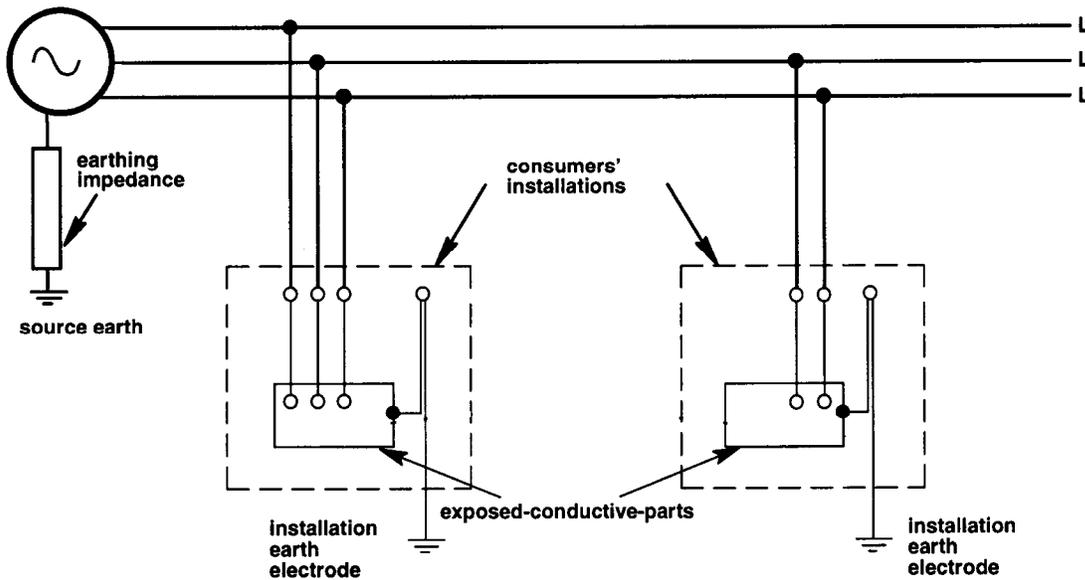

Figure A-5 – IT system
**IT system:** One pole of the supply system is connected through an impedance to a buried electrode. Local buried electrodes are used to 'earth' exposed conductive parts of a load installation. (Figure A-5)